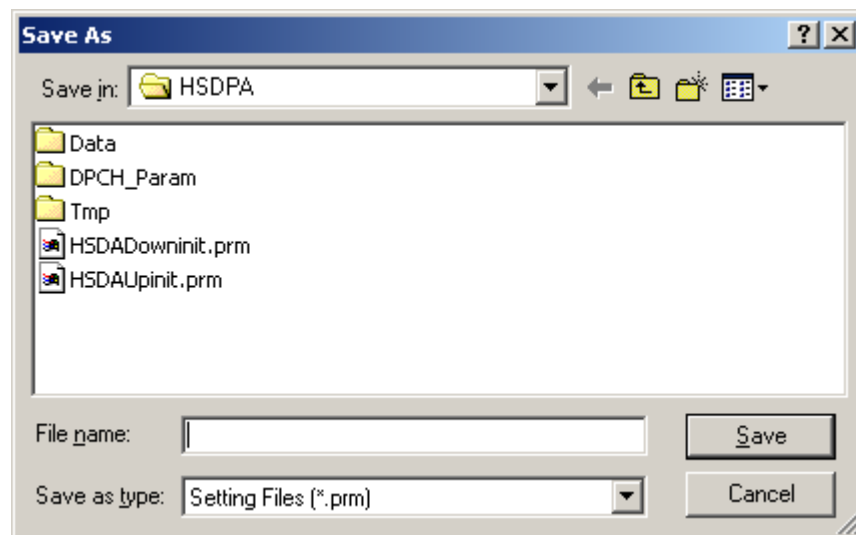

Figure 4.10.5-1 Parameter File Saving Dialog Box
- (1) Select **Save Parameter File** from the **File** menu or click the  tool button to display the parameter file saving screen shown in Figure 4.10.5-1 above.
- (2) Enter a file name in the **File name** text box and click the **Save** button to save the parameter file.